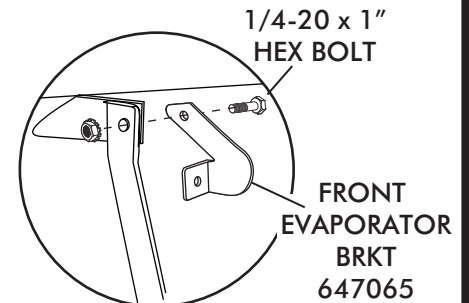

FIGURE 14a
- ❑ SECURE THE FRONT EVAPORATOR MOUNTING BRACKET BETWEEN THE DASH BRACKET AND COWL BRACKET USING 1/4-20 x 1" HEX BOLT, FLAT WASHER AND A 1/4" NUT w/ STAR WASHER. SEE FIGURE 14a.